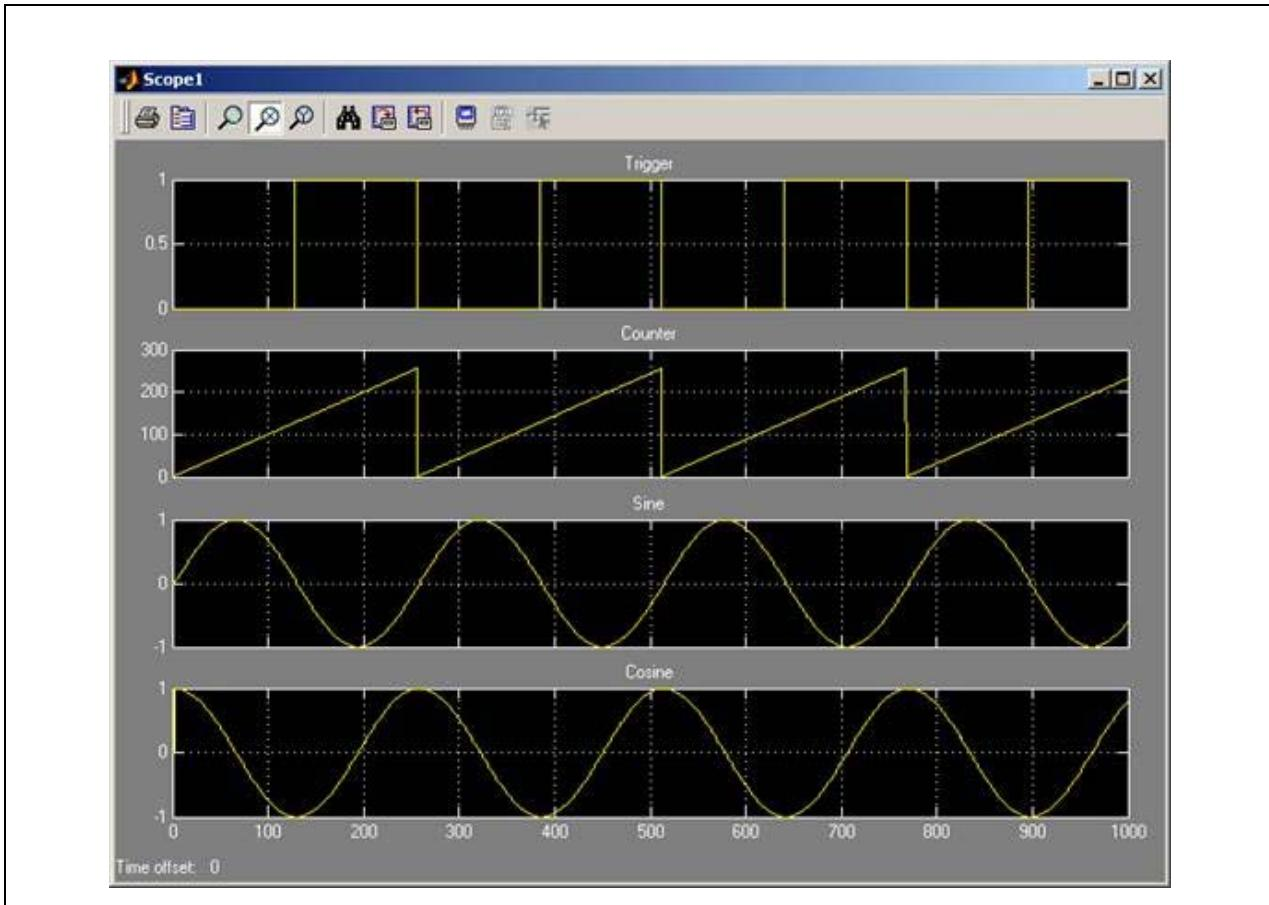

Figure 135: Scope1 Displayed Waveforms
4. Simulate the model by clicking on the 'Start simulation' icon shown right. At this point, without modifying the model, the plot shown in Figure 135 on page 210 should appear.